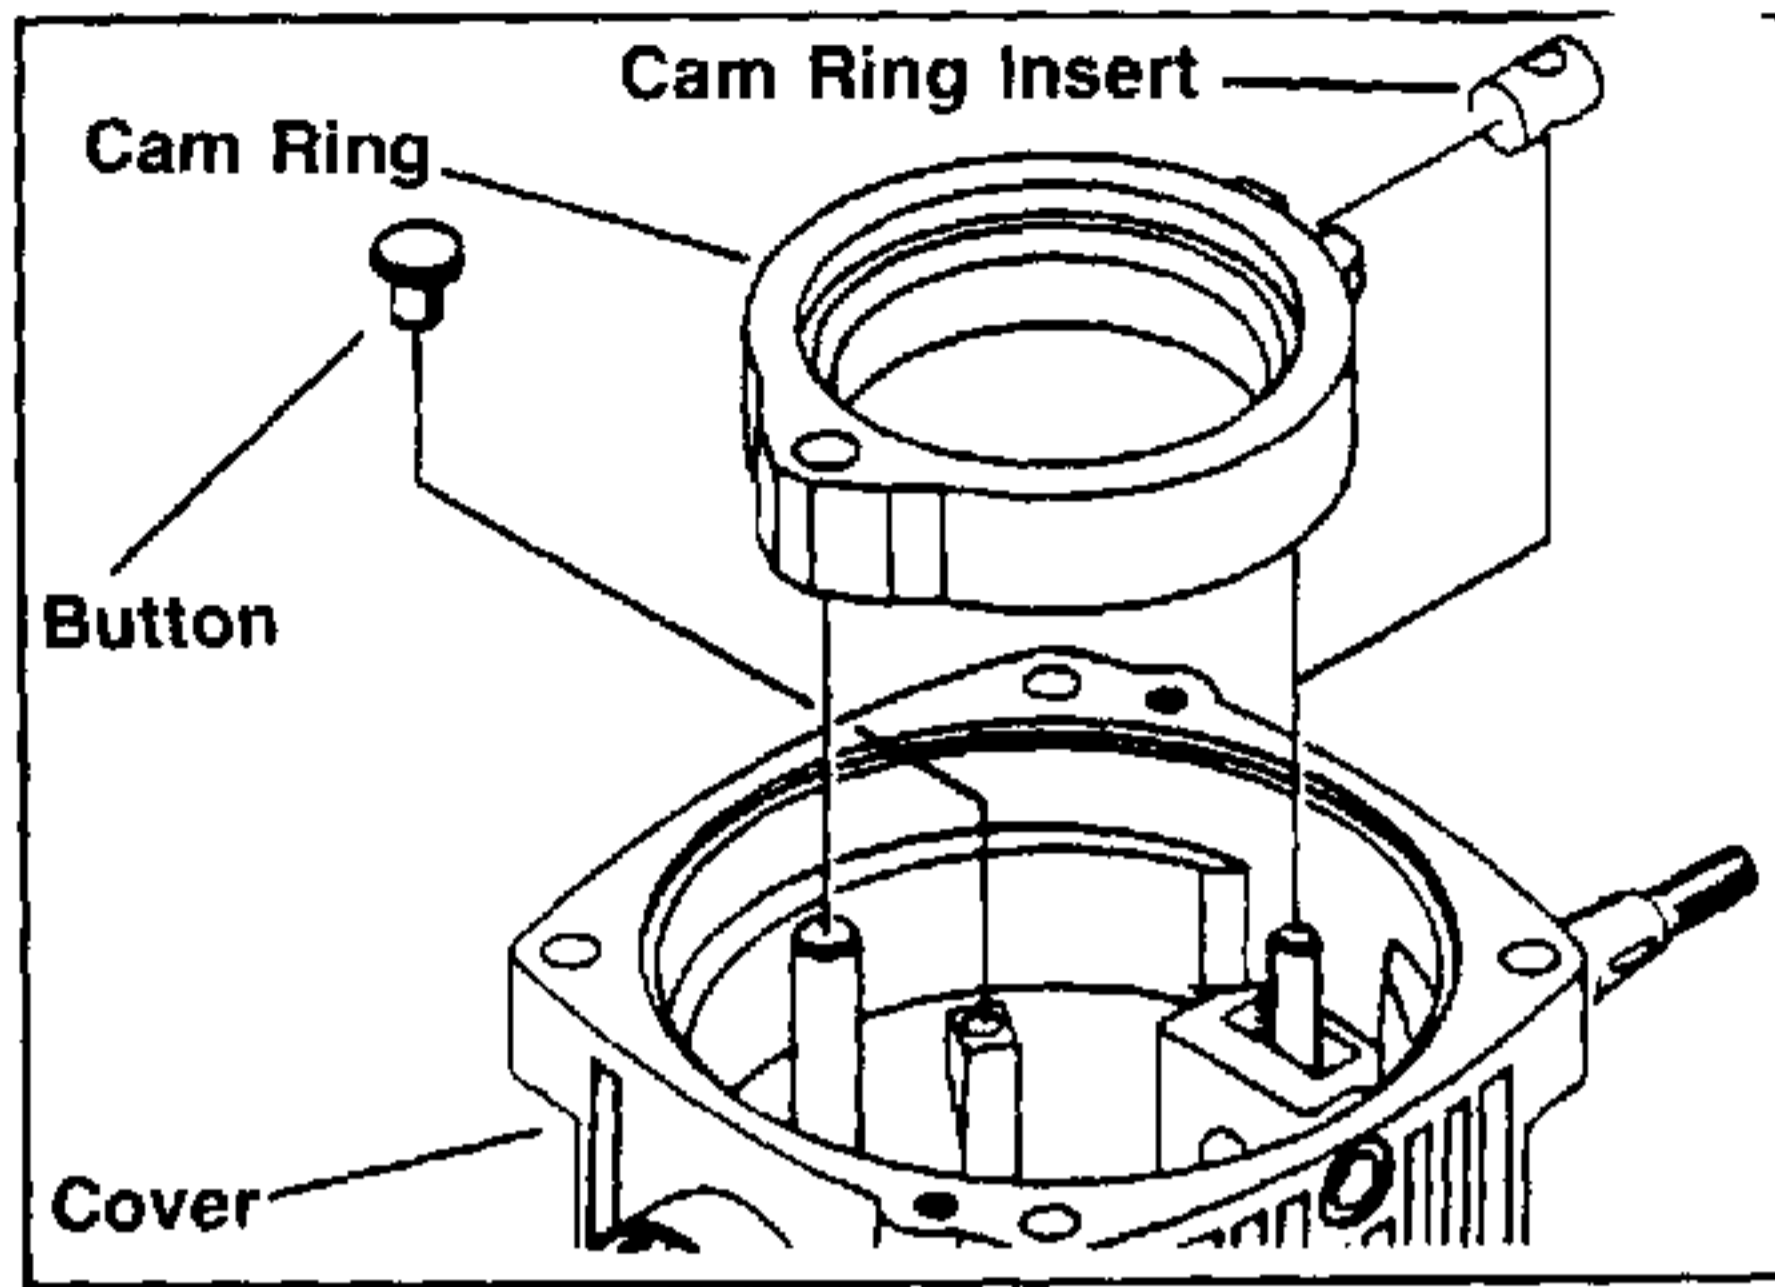

FIGURE 28.
44. Install the cam ring insert with the hole away from the cam ring as shown in figure 28.